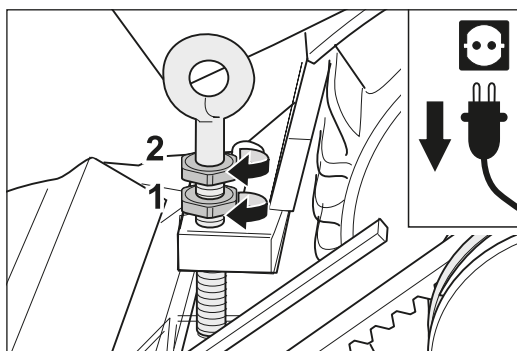

Fig. 94 First tighten the lower nut (1), then the upper nut (2) at the eye bolt at the motor. Then lock both nuts against each other.
- 5 First tighten the lower nut (fig. 94, 1), then the upper nut (fig. 94, 2) at the eye bolt at the motor. Then lock both nuts against each other.